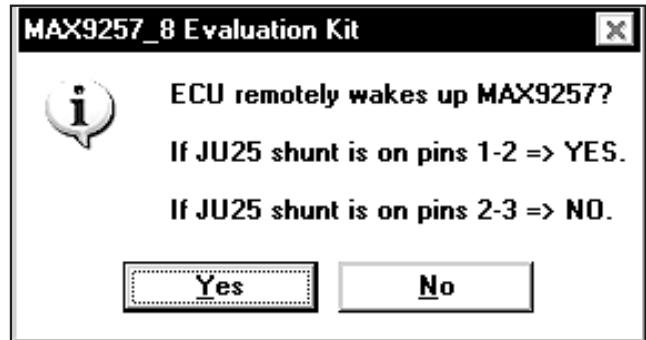

Figure 1. MAX9257/MAX9258 Evaluation Kit Software—MAX9257 REM Status
12) Press the **Yes** button on the popup window (Figure 1), which verifies if the ECU remotely wakes up the MAX9257. If the REM pin of the MAX9257 is set to high, the ECU should wake up the MAX9257 by setting the REG08 PD bit to low. If the REM pin of the MAX9257 is set to low, the MAX9257 is powered up when VCC is applied.